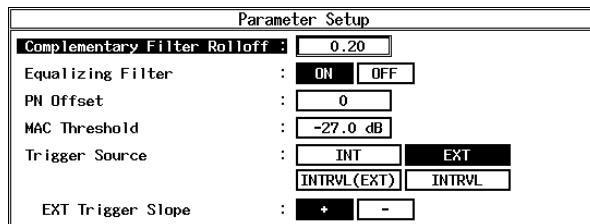

Figure 6-5 Measurement Parameters for Code Domain (IQ Input)
5. On the R3267 Series, set the measurement parameters as shown in Figure 6-5.